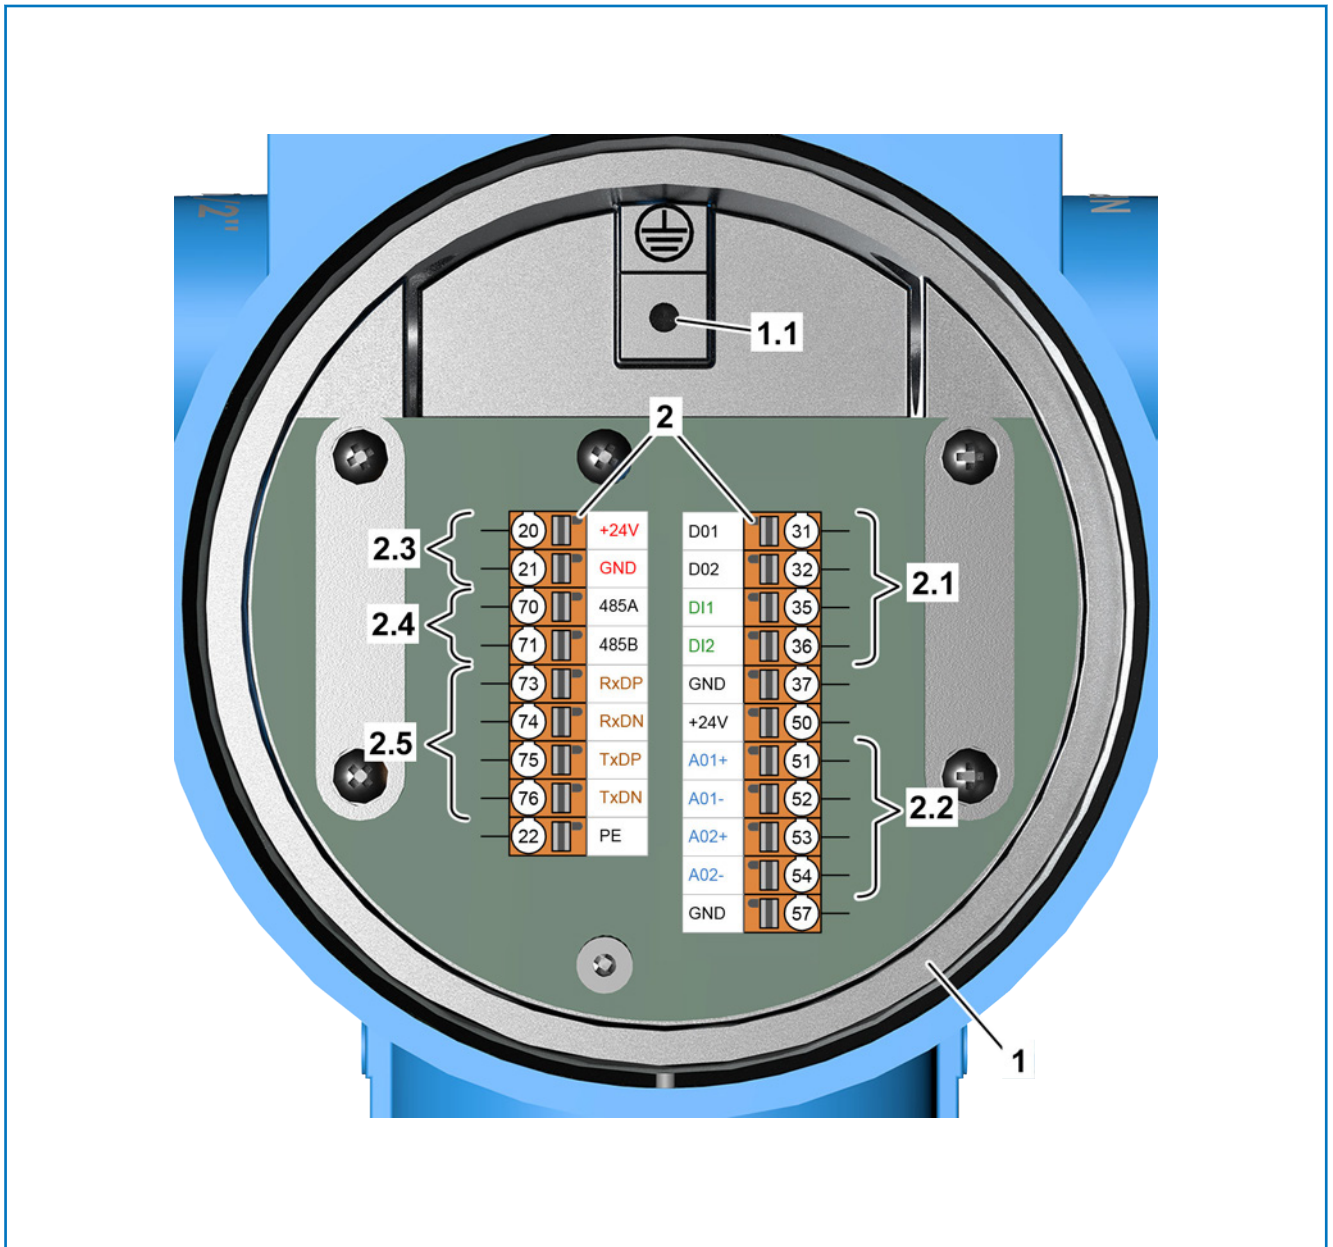

Fig. 7: Wiring diagram for RHE42-R* Coriolis transmitter (not intrinsically safe)
- 1.** ➤ Remove the cover (D) from the RHE42 Coriolis transmitter (A), for example using a strap spanner.
- 2.** ➤ Undo the screws (C) and remove the cover plate (B) (only for intrinsically safe inputs and outputs).
- 3.** ➤ Screw the appropriate cable glands (NPT ½ inch with Ex e or Ex d approval if the device is being installed in an Ex zone / Div.) into the openings (arrows) of the RHE42 Coriolis transmitter (A) (the cable gland is not included in delivery).
- 4.** ➤ Guide the cable through the cable glands and into the RHE42 Coriolis transmitter (A).
- 5.** → Connect the wires to on the RHE42 Coriolis transmitter (A):
- → Figure 7: Wiring diagram for the RHE42-R* \(not intrinsically safe\)